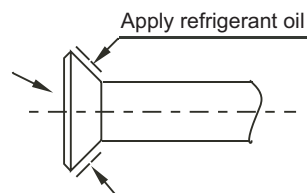

Fig. 6-1
- b. Before screwing up the flared nut, apply refrigerant oil at the outer surface of the pipeline flare and the taper surface of the connection nut. Screw up the nut for 3~4 circles beforehand (see Fig. 6-1).